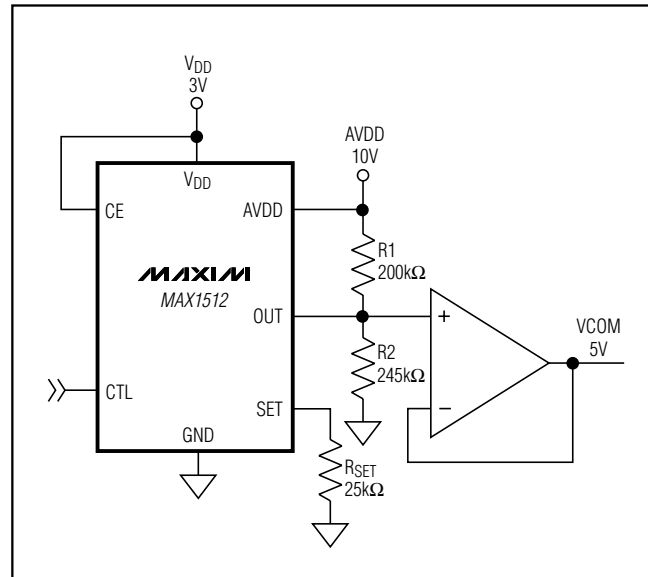
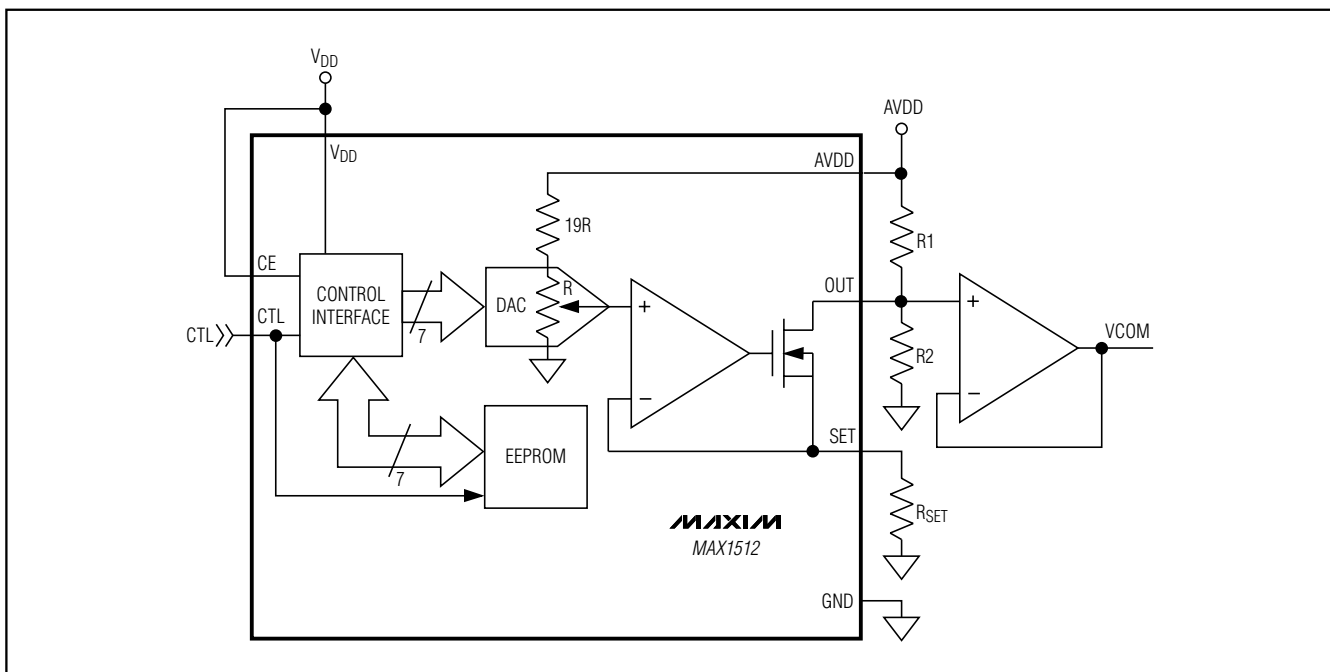

Figure 1. Standard Application Circuit
Figure 2. Simplified Functional Diagram
(Circuit of Figure 1, $V_{DD} = 3V$, $V_{AVDD} = 10V$, $V_{OUT} = 5V$, $R_{SET} = 30.1k\Omega$, $T_A = 0^\circ C$ to $+85^\circ C$, unless otherwise noted. Typical values are at $T_A = +25^\circ C$.) (Note 1)
(Circuit of Figure 1, $V_{DD} = 3V$, $V_{AVDD} = 10V$, $V_{OUT} = 5V$, $R_{SET} = 24.9k\Omega$, $T_A = +25^\circ C$, DAC half scale, unless otherwise noted.)
The MAX1512 is a solid-state alternative to mechanical potentiometers used for adjusting the LCD backplane voltage (VCOM) in TFT LCD displays. The MAX1512 attaches to an external resistive voltage-divider and sinks a programmable current (I_{OUT}), which sets the VCOM level (Figure 1). An internal 7-bit DAC controls the sink current and allows the user to increase or decrease the VCOM level (Figure 2). The DAC is ratio-metric relative to AVDD and is monotonic over all operating conditions. The user can store the DAC setting in an internal EEPROM. On power-up, the EEPROM pre-sets the DAC to the last stored setting. The single-wire interface between the LCD panel and the programming circuit adjusts the DAC, programs the EEPROM, and provides programming power.
- Place the VCOM buffer and the R1/R2 voltage-divider close to the OUT pin (Figure 1). Keep the VCOM buffer and the R1/R2 voltage-divider close to each other.